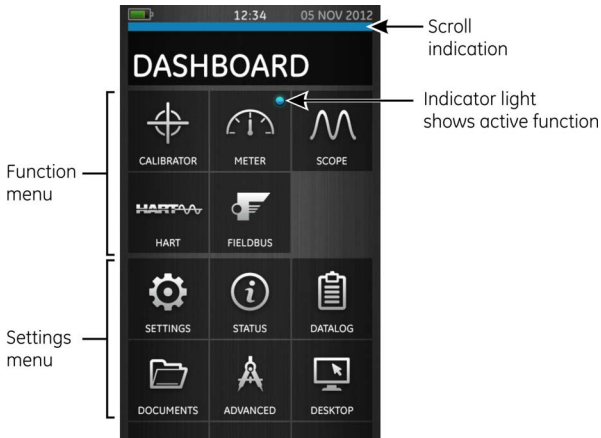

Figure 3: Dashboard - Touch Screen
7. Druck DPI 620 Genii, Modes (Ref: Fig 3, Dashboard)